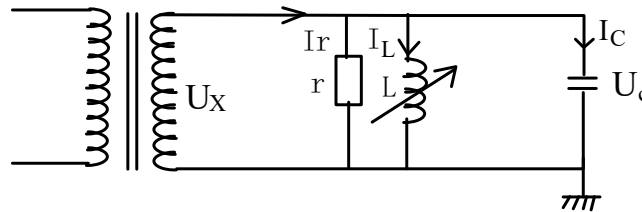
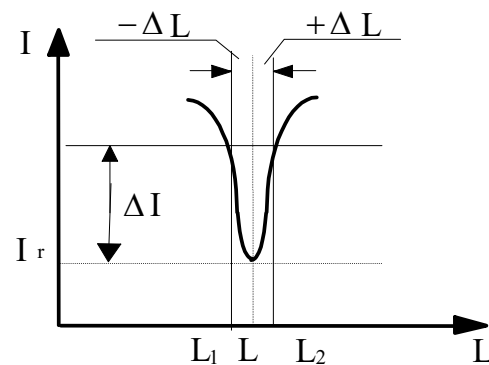

Figure 4 Parallel resonant schematic circuit diagram
Figure 6 Parallel resonance characteristic curve
Parallel resonance schematic circuit diagram as shown in figure 4, the vector diagram as shown in figure 5
Parallel resonance is the current compensation mode, resonance characteristic curve as shown in Figure 6, the current in Figure 4:
As in figure 4, when adjust L to the resonant point inductance L_0 , $X_L = X_C$, $I_L = I_C$ at this time achieve complete parallel resonance, see Figure 6, L_0 is the same with L_0 of formula (2)